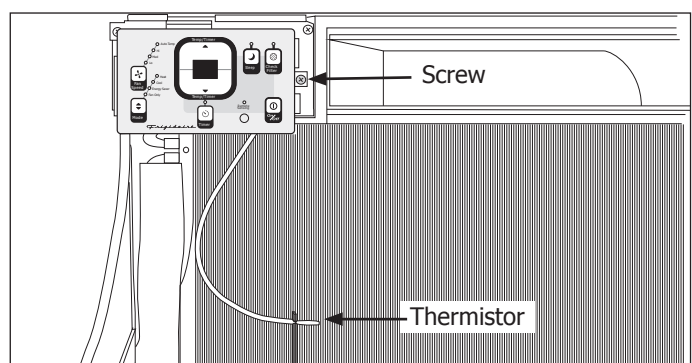

Figure 4-57.
4. Extract the four screws securing user interface to front panel. (See Figure 4-57)